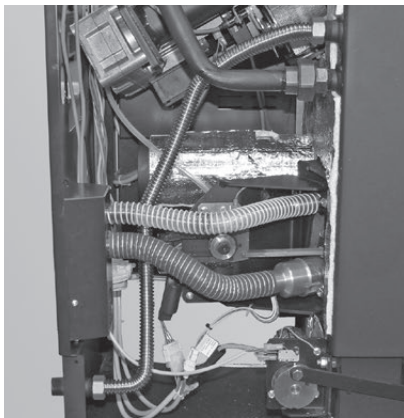

Fig. 25 Routing return corrugated tube behind flow pipe to return pipe
- Route return corrugated tube (part 1) behind flow pipe to return pipe (part 4) and screw in place with union nut and Klingerit seal – Fig. 25.